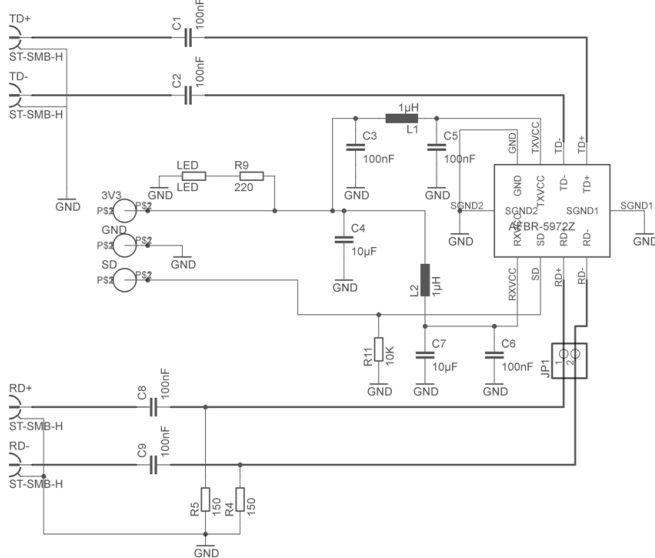

Figure 2. Schematic of the AFBR-0544Z evaluation board
The evaluation board schematic is shown in Figure 2. The differential LVDS or LVPECL electrical inputs signal of the transmitter are AC coupled through 100nF capacitors and connected by 50Ω transmission lines to SMA connectors. The differential LVPECL electrical outputs from LVPECL termination of the receiver are AC coupled through 100nF capacitors and connected by 50Ω transmission lines to SMA connectors. The signal detect (SD) pin is LVPECL compatible. The thick line between SMA connector and the input/output pins of AFBR-5972Z represents a 50Ω transmission in the schematics (Figure 2). The top and bottom-sides of the evaluation PCB are shown in Figure 3(a) and 3(b) respectively.
The AFBR-0544Z evaluation board electrical schematic is shown in Figure 2, and the bill of materials (BOM) is given in Table 2.